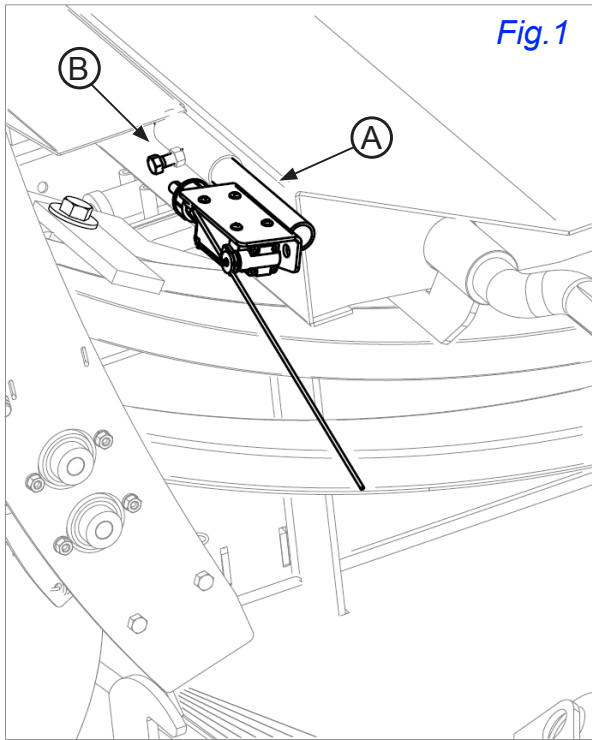

Fig. 1
1. Install film sensor bracket (A) by sliding into frame tube and locking with provided bolt (B). See Fig. 1.